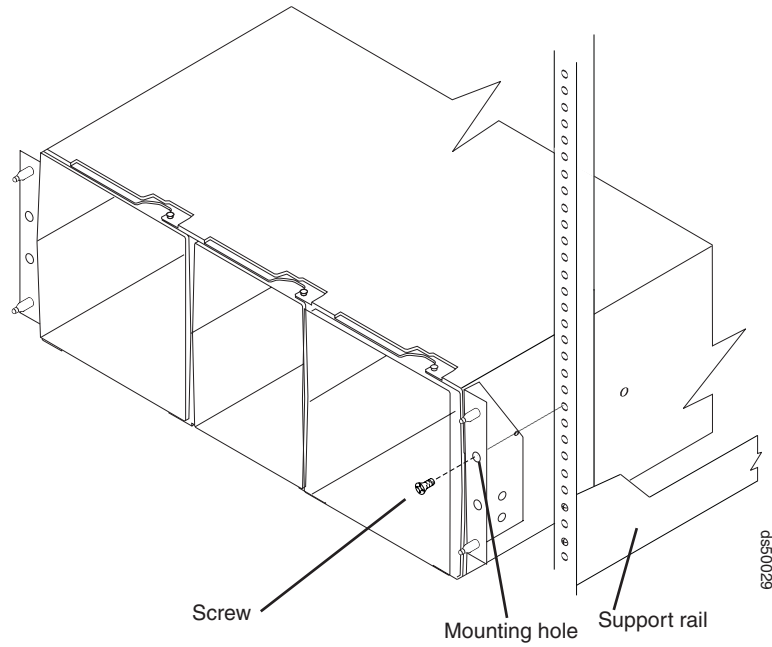

Figure 17. Securing the DS5100 and DS5300 to the rack cabinet
1. Remove the empty DS5100 and DS5300 from the shipping box and set the storage subsystem in the cabinet. Figure 17 on page 45 shows the correct orientation of the empty storage subsystem to the cabinet and support rail. The following steps will help you safely install the DS5100 and DS5300 on the support rails:
2. Secure the storage subsystem to the cabinet. Figure 17 shows how to secure the DS5100 and DS5300 to the vertical members of the cabinet.